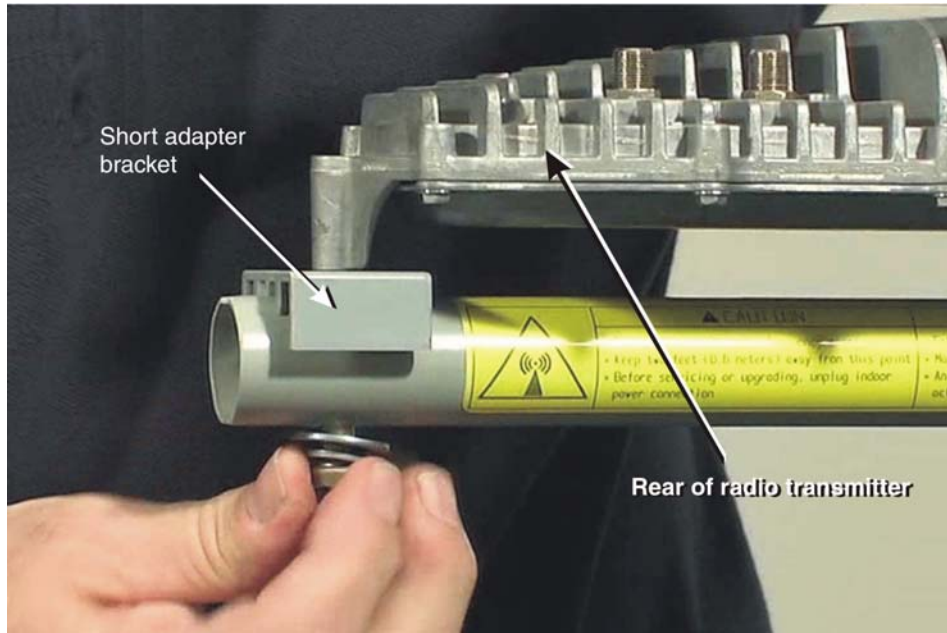

Figure 19: Securing the rear of the radio assembly
- Place the short adapter bracket in position near the end of the feed support arm and lower the radio onto it as shown in Figure 19.